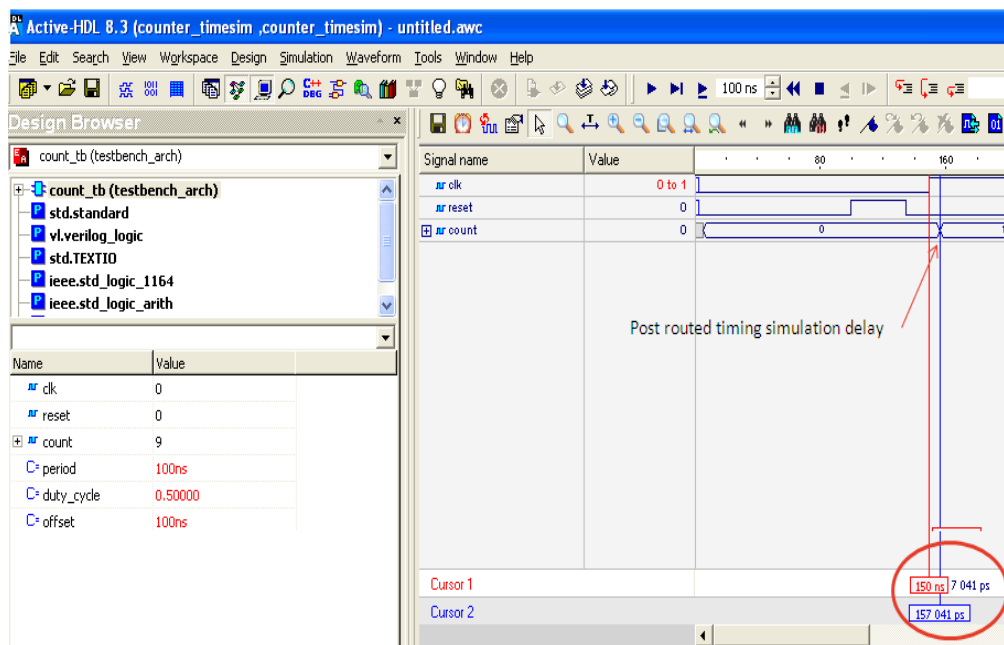

Figure 10-24: Timing Simulation Waveform
12. Type the command “run 1000ns” in the console and press enter. The 1- μ s simulation waveform will show up in the waveform window. The counter output timing delays with respect to clock positive edge is shown in Figure 10-24.